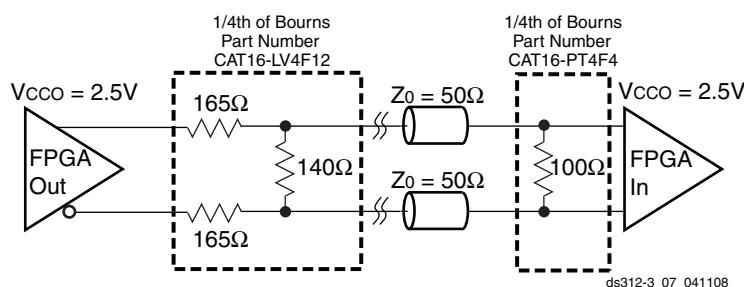

Figure 72: External Termination Resistors for BLVDS Transmitter and BLVDS Receiver
- Output voltage measurements for all differential standards are made with a termination resistor ( $R_T$ ) of  $100\Omega$  across the N and P pins of the differential signal pair. The exception is for BLVDS, shown in Figure 72 below.